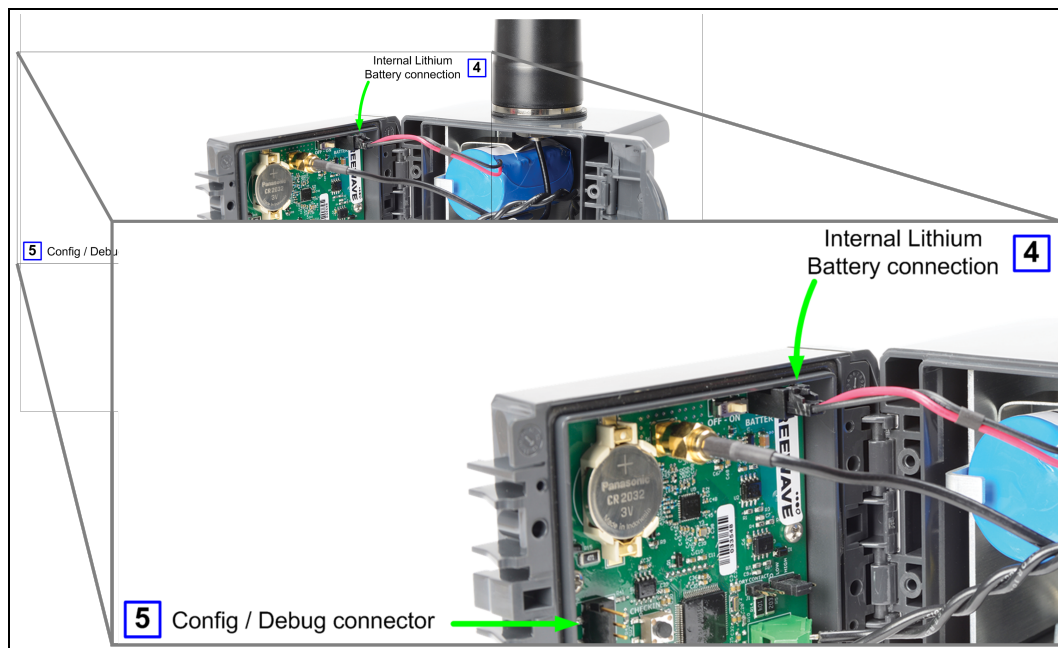

Figure 3: WC30i-TZ Internal Lithium Battery connection and Config / Debug connector
3. Connect the battery cable to the **Internal Lithium Battery** connection (see #4 of Figure 3).
5. Connect the 4-pin to USB programming cable to the **RS232 Config / Debug** connector (see #5 of Figure 3).